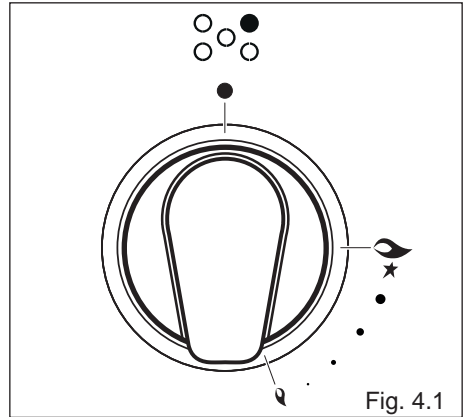
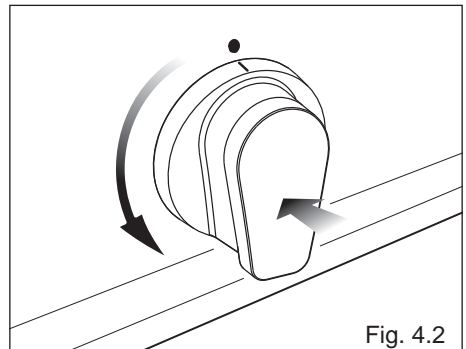

Fig. 4.1
Fig. 4.2
Gas flow to the burners is adjusted by turning the knobs (illustrated in fig. 4.1) which control the safety valves.
1. Press in the corresponding knob and turn counter-clockwise (fig. 4.2) to the full flame position marked by the  symbol (fig. 4.1); hold the knob in until the flame has been lit.